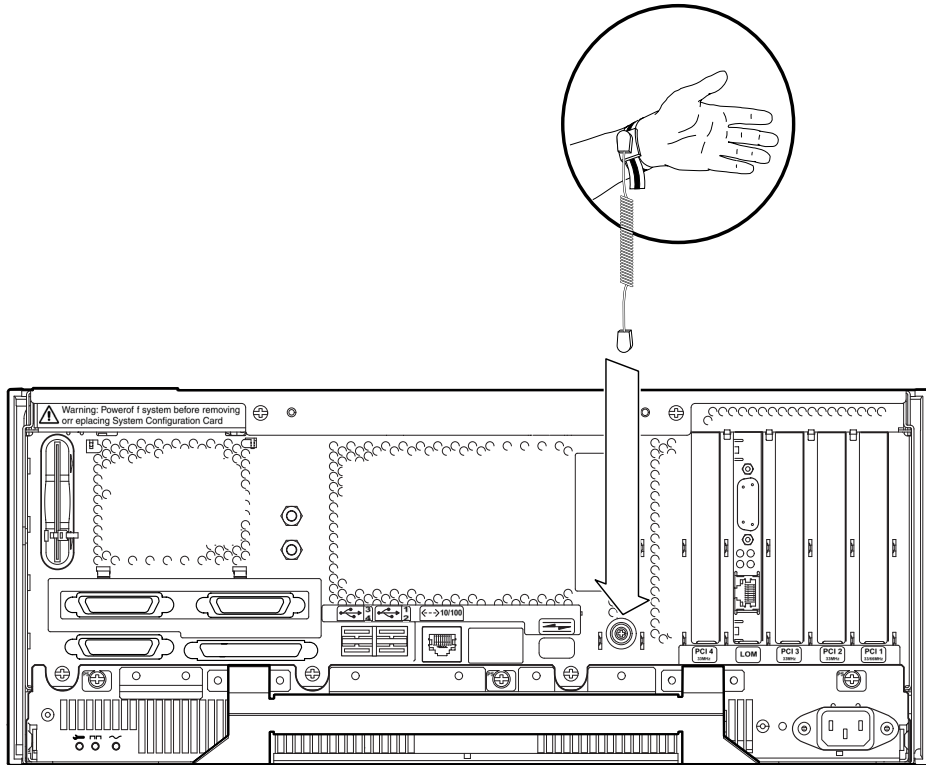
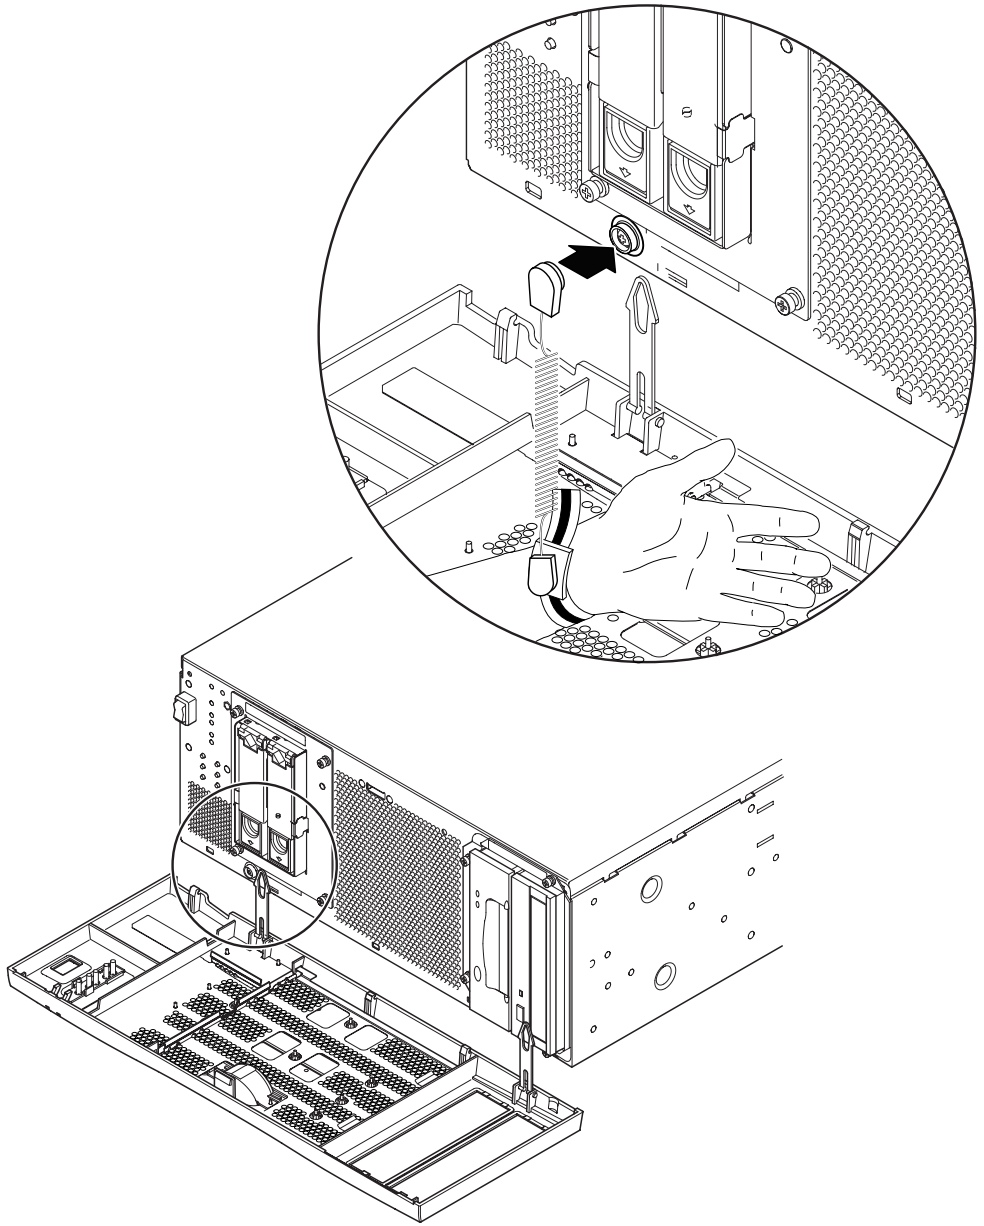

FIGURE 7-3 Attaching the Antistatic Wrist Strap to the Rear of the Chassis
FIGURE 7-4 Attaching the Antistatic Wrist Strap to the Front of the Chassis
- To attach the antistatic wrist strap to the chassis, connect the strap as shown in FIGURE 7-3 or FIGURE 7-4.